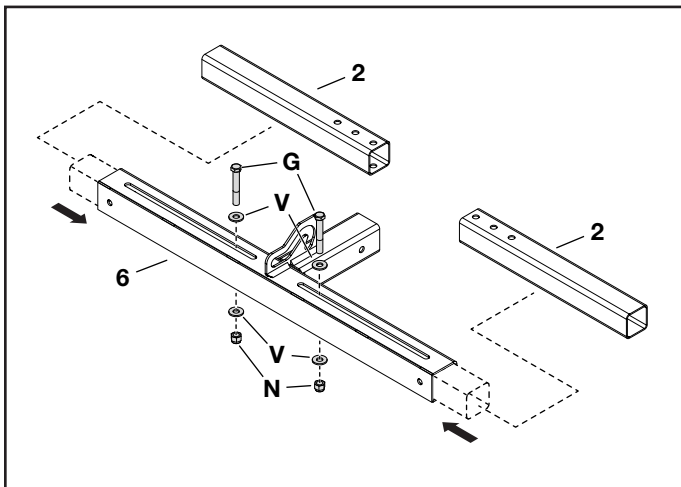

FIGURE 1
STEP 1: (SEE FIGURE 1)
- Insert a slider tube (2) into each end of the hitch mount assembly (6).
- Attach the slider tube to the hitch mount assembly using two hex bolts (G), four washers (V), and two Nylock hex nuts (N). Do not tighten.